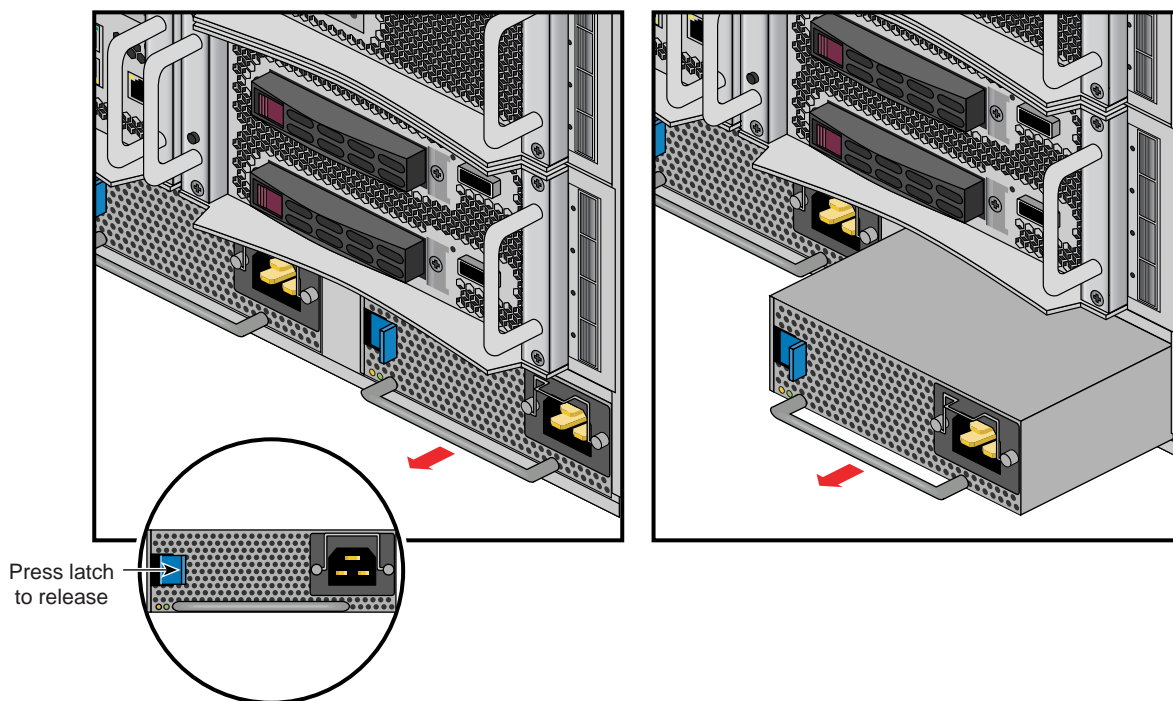

Figure 6-4 Removing an Enclosure Power Supply
3. Press the retention latch of the power supply toward the power connector to release the supply from the enclosure, see Figure 6-4 on page 70.